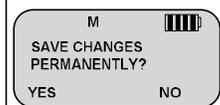

Figure 8
19. Once all parameters are entered, press the "Exit" softkey. (See Figure 8)